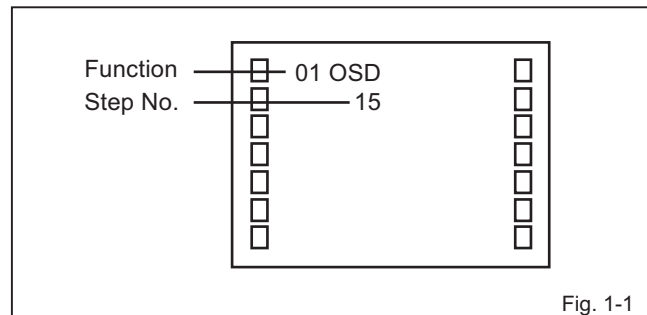

Fig. 1-1
2. Press the VOL. DOWN button on the set and the Channel button (**9**) on the remote control for more than 1 second to appear the adjustment mode on the screen as shown in **Fig. 1-1**.
5. Activate the adjustment mode display of **Fig. 1-1** and press the channel button (**03**) on the remote control to select "CUT OFF".
4. Activate the adjustment mode display of **Fig. 1-1** and press the channel button **(16)** on the remote control to select "G DRV".
3. Activate the adjustment mode display of **Fig. 1-1** and press the channel button **(04)** on the remote control to select "HPOS".
3. Activate the adjustment mode display of **Fig. 1-1** and press the channel button **(08)** on the remote control to select "VPOS".
3. Activate the adjustment mode display of **Fig. 1-1** and press the channel button **(07)** on the remote control to select "VSIZE".
3. Activate the adjustment mode display of **Fig. 1-1** and press the channel button **(09)** on the remote control to select "VLIN".
3. Activate the adjustment mode display of **Fig. 1-1** and press the channel button **(63)** on the remote control to select "LVL".